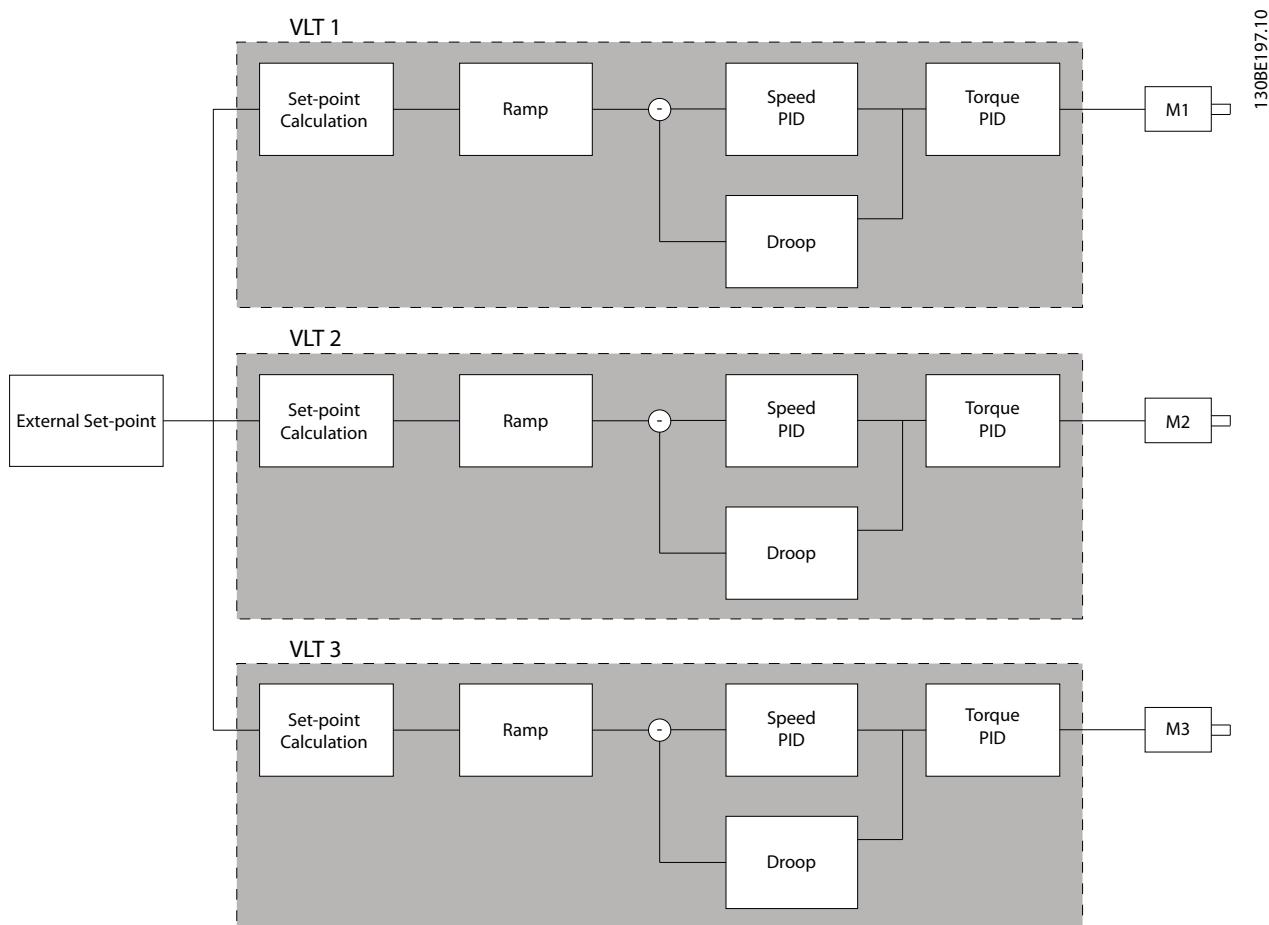

Figure 3.47 Speed PID Droop
*Figure 3.47 shows the concept of the feature:*